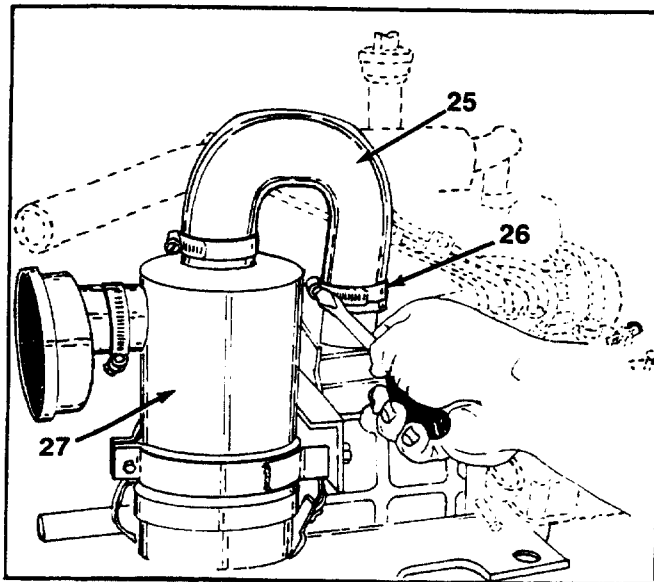

FIGURE 17.
16. Loosen the hose clamps on air cleaner hose, remove air cleaner hose. See figures 17 and 18.